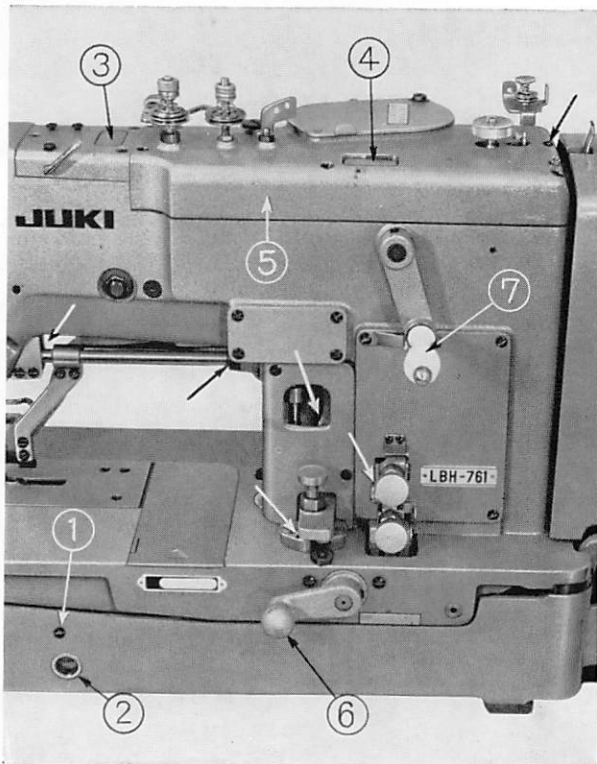
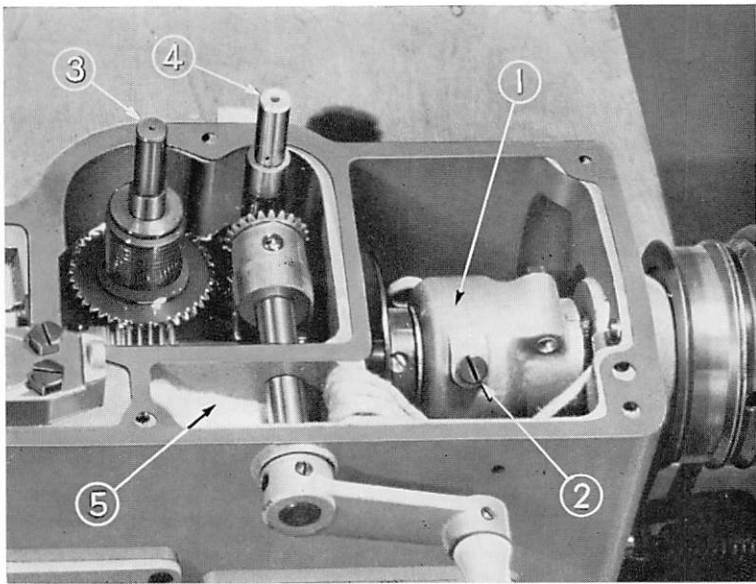
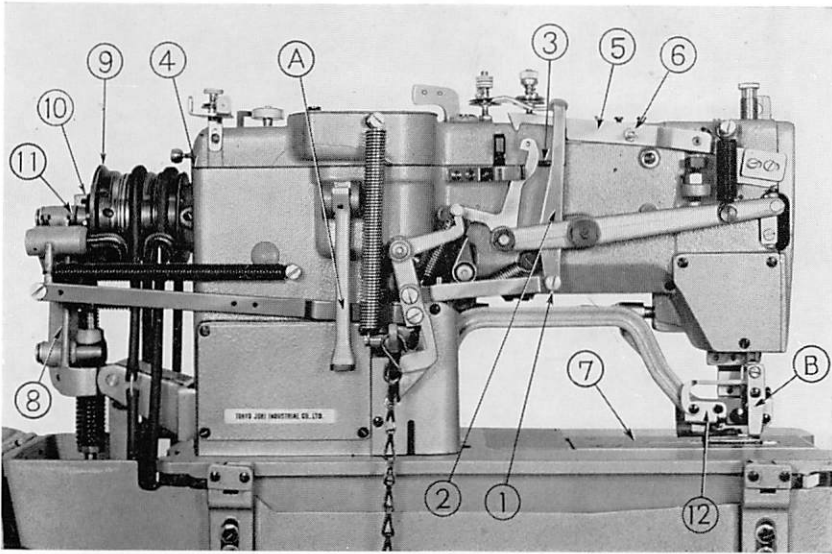

Fig. 4
Fig. 6
Fig. 12
When tilting the machine, at first, remove the belt and by uprighting the head support block at the left side of the machine (Fig. 12 ㉔), tilt it to your left. Be sure to see that the machine arm support rod is standing up straight.
From the oiling hole (Fig. 4 ㉑) pour in new JUKI NEW Defrix Oil No. 1 (low viscosity) up to the red line of the oil sight gauge (Fig. 4 ㉒). *Do not use* high viscosity oil for these machines under any circumstances.
Every morning open the oiling hole (Fig. 4 ㉓) and drop in 2~3 cc of the new JUKI Defrix Oil No. 1. This is a special oil
Every morning, open the oil hole (Fig. 4 ④) and pour in about 5~8cc of JUKI NEW Defrix Oil No. 1. The oil in this hole does not leak, so don't worry.
If the top cover (Fig. 4 ⑤) is removed, the bevel gear case (Fig. 6 ①) will appear. Remove the oil plug screw (Fig. 6 ②) and pour in grease into this hole. The greasing of this hole should be done at least once a year.
To remove the cover, first, remove the tension release lever hinge screw (Fig. 12 ①) and tilt the tension release lever (Fig. 12 ②) towards the operator. Then, remove the top cover set screws (Fig. 5 ⑥~⑩) and also remove the spur gear bushings (one at Fig. 5 (B) ⑫ and one at ⑬ below the spur gear). Finally, insert a screw driver to the slit of Fig. 12 ③ and ④ of the top cover and if it's lifted up evenly, the cover will come off.
When installing the top cover, push back the bobbin winder trip latch (Fig. 5 ⑭) to the rear then by taking out the oil wick which is dangling at the bottom surface of the top cover (the wick which is oiling the shaft bushing of the bobbin winder pulley, Fig. 5 (B) ⑮) from the bottom side of the oil hole (Fig. 4 ④) to the top surface of the cover and by leveling the top cover, plug it into the worm wheel shaft (Fig. 6 ③) and the cam driving shaft (Fig. 6 ④) and put it on the top of the machine arm. Then, after pegging in the cover position pin (Fig. 5 (B) ③ ④), retighten the top cover set screws and install the spur gear bushing. Each of the 2 set screws of the spur gear bushing should be matched with the level surface of the shaft and tightened. Finally, insert the oil wick between the rear oil reservoir felt (Fig. 6 ⑥).
Oil all other parts not mentioned above with the hand oiler. The oiling holes are all marked with red paint. The main holes are shown by arrows in Fig. 4, Fig. 5, Fig. 12 and Fig. 21. These holes should be hand-oiled at least once or twice a week, a little quantity at a time, with JUKI NEW Defrix Oil No. 1.
When the bobbin thread is all gone or when you detect something wrong with the sewing condition, push down the finger (Fig. 12 ㊦) of the knife stop lever (Fig. 12 ㊦) with your hand and hold it there until the machine stops. This will prevent the machine from cutting.
is extremely bad, it can be run at a low speed. If the handle (Fig. 4 ⑥) is lowered and kept there, the machine will run at a slow speed even though the starting pedal is stepped on fully.
If the needle should break during the running of the machine and the sewing is continued in this condition, the sewing cloth may be ripped. In such a case, the machine can be stopped emergently. To do this, turn the hand stop crank 180° counter-clockwise until it hits the stop bolt. The machine will stop instantly. To return the work clamp check to the original sewing position, return the hand stop crank to the original position and by either turning the handle (Fig. 4 ⑦) or starting the machine, complete the sewing cycle.
This handle is used for emergent stopping as mentioned above and also when it is desired to re sew from the point just before the thread breakage. If this handle is rotated in the clock-wise direction, the work clamp carrier (Fig. 12 ⑦) and the work clamp check will move in the same manner as in normal sewing. The carrier will not move even if this handle is reversed, so if you want to move the carrier a little, move the handle forward and backward, a little at a time, and the carrier will move.
1) During the maintenance of this machine, if the stop-motion lever (Fig. 12 ⑧) is pulled to the rear by hand and the driving pulley (Fig. 12 ⑨) is rotated and if the machine is started by turning the handle before the groove of the stop cam (Fig. 12 ⑩) is tightly interlocked with the stop link (Fig. 12 ⑪), the knife often cuts at the instant when the machine starts.